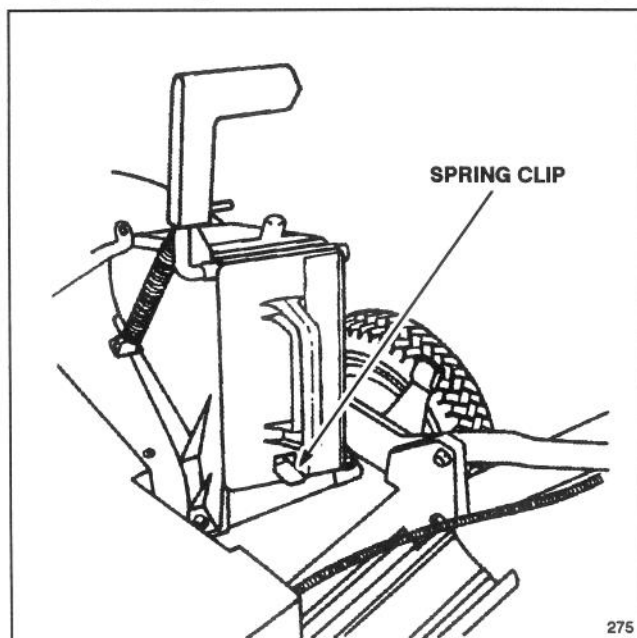

Figure 4
3. Push the plug all the way in until the spring clip on the bottom of the plug clicks into place, locking the plug securely into the discharge tunnel (Fig. 4).
4. To remove discharge plug, pull discharge door handle rearward and hold. Lift spring clip on bottom of plug (Fig. 4). Pull plug rearward out of discharge tunnel.